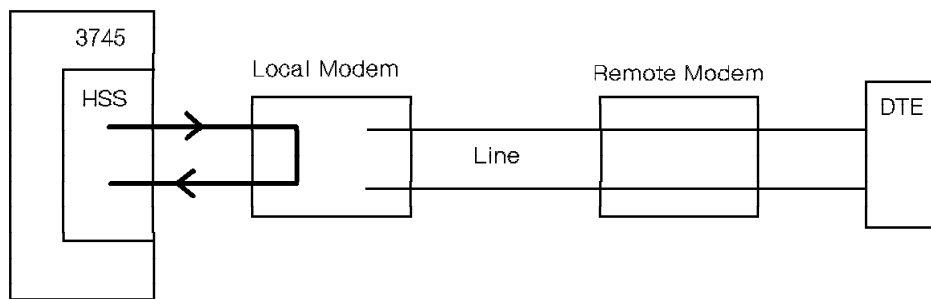

Figure 21. Local Modem Wrap Test (HSS)
- Local V.35 modem (Figure 21 on page 364)